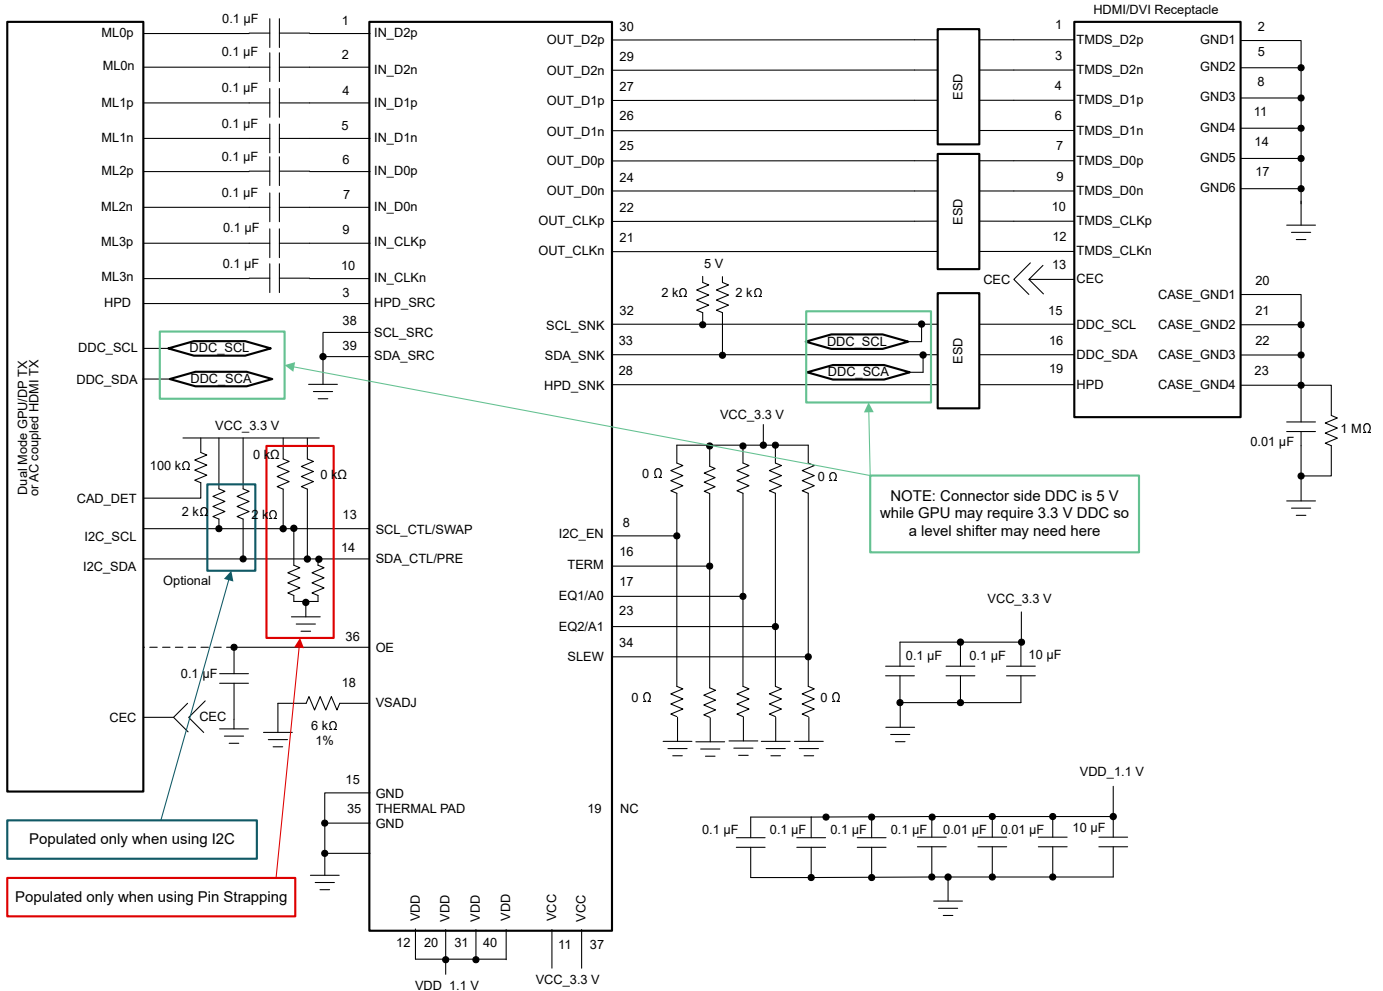

Figure 8-1. TDP158 in Source Side Application
Figure 8-1 shows a schematic representation of what is considered a standard implementation.
- Use the typical application Figure 8-1 for information on control pin resistors.
- See schematics in Figure 8-1 on recommended decouple caps from V_{CC} pins to ground.